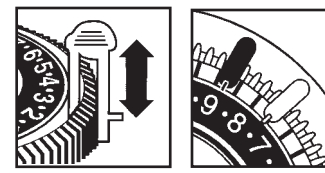
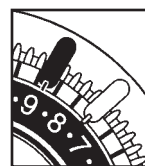

Figure 1
Figure 2
1. Insert ON (green) and OFF (red) trippers into dial at desired ON and OFF times (Fig. 1). Be sure trippers are firmly pressed against dial surface and at least one space is left between ON and OFF trippers (Fig. 2).